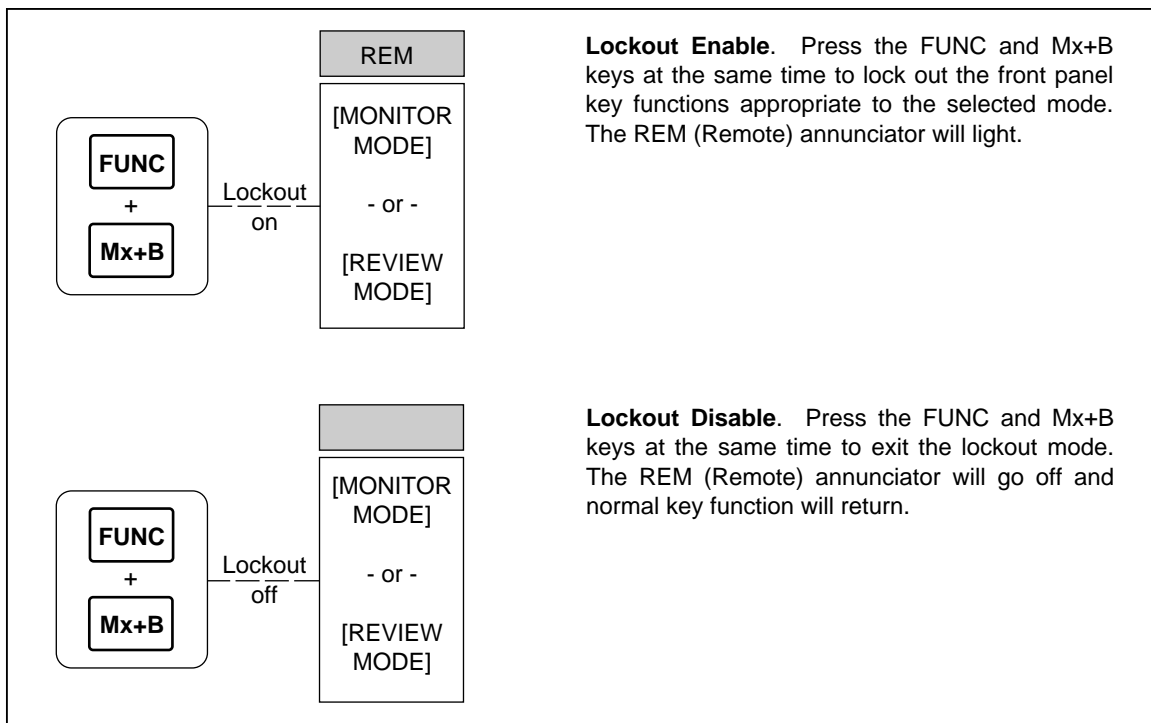

Figure 2-24. Front Panel Key Lockout Options
- Front Panel Key Lockout Option (Figure 2-24)
Perform the procedure in Figure 2-23 to return the instrument from the remote mode to the local mode. When the instrument is operated over the RS-232 computer interface, the computer can disable all front panel controls except the **SCAN** key, which lights the REM annunciator (bright). If the REM annunciator is dim, the front panel keys are locked out (see Figure 2-24).
Perform the procedure in Figure 2-24 to lockout the front panel key functions. There are three lockout features: